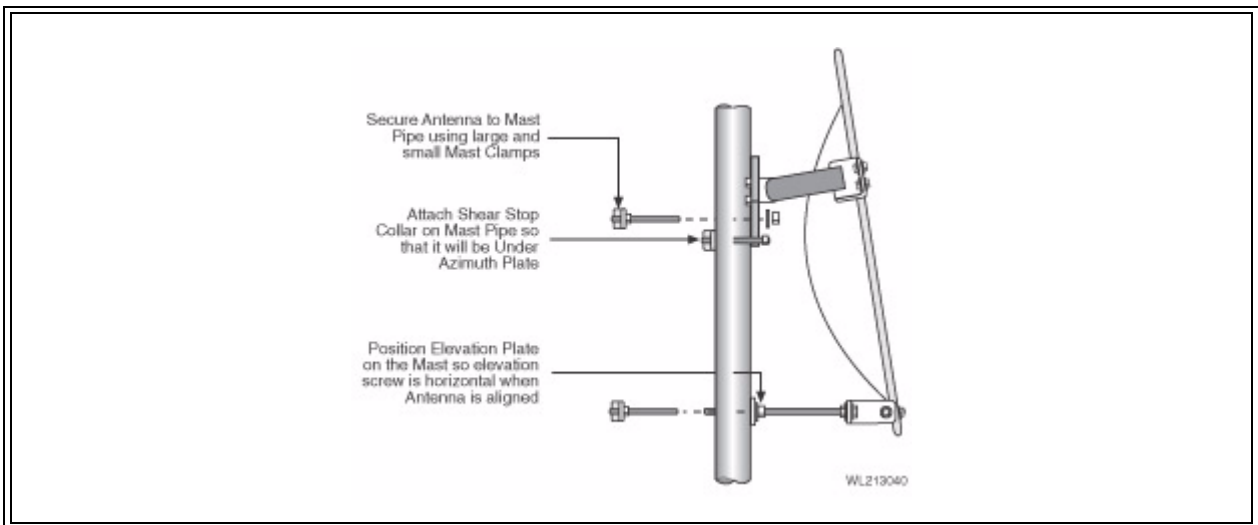

Figure 4-22 Elevation Rod Assembly
- 36** Verify proper assembly of the elevation rod hardware as shown in Figure 4-22. Remove outer hardware and insert rod through elevation plate.
Important: For elevation angles greater than $\pm 20^\circ$, the Beveled Washers shown in Figure 4-22 must be used. However, beveled washers may be used for elevation angles greater than $\pm 10^\circ$.